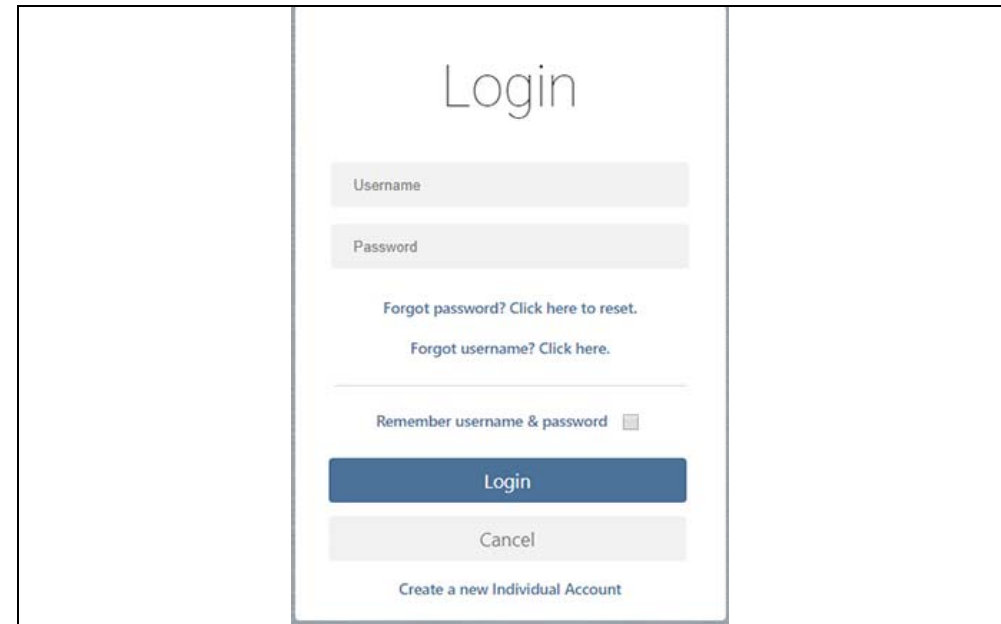

Figure 14-5
3. Log in using your **Username** and **Password** (*Figure 14-5*).